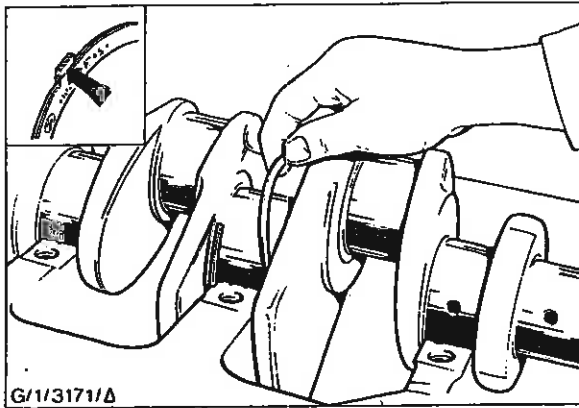

Fig. 48 - Installing Centre Main Bearing Upper Thrust Washers
15. Fit the centre main bearing upper thrust washers into position ensuring that the tongues are located in the anchor slots - see Fig. 48.
The 2720 range of engines originally used one of two alternative crankshaft thrust washers. If the tag on the lower thrust washer, shown in the inset of Fig. 48, has a groove, this can cause loss of strength and possible breakage of the tag.